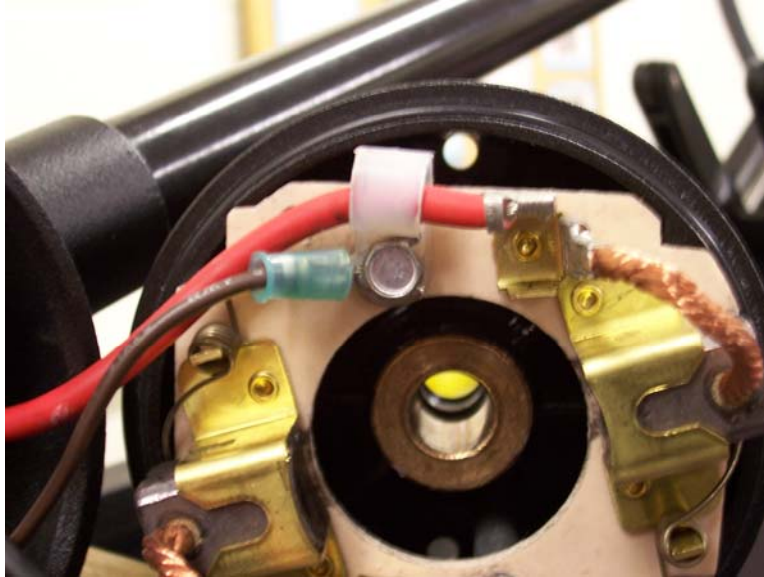

Figure 2
**Step 3.** Disassemble the motor lower unit to install the motor case grounding wire. Locate and loosen one of the brush plate mounting screws. (These are the screws that hold the brush plate to the motor end bell.) Slip the forked terminal of the ground wire under the head of the brush plate mounting screw (DO NOT attach to the brush), and re-tighten the screw to secure this end of the ground wire. (Make sure the wire terminal does not contact the brush wire terminal block or brush shunt wire.) (see Figure 2)